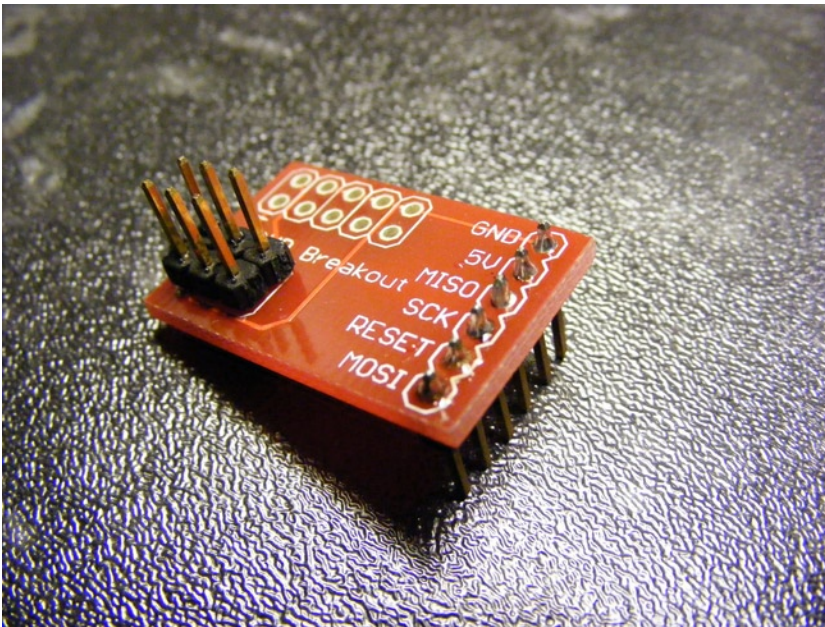

Figure 2-25. Adding header pins
We need to solder some header pins into the adaptor board. We're going to use some sections from a pin header, in conjunction with the Sparkfun AVR Programming Adaptor board, as shown in Figure 2-25.
3. Now, solder the short ends of the pins which are poking through the PCB topside, as in Figure 2-25.
4. Next, put your two three-pin groups into the top side of the board (or into the five-pin groups above if you have a ten-way cable from your programmer), and solder on the underside. Make sure there are no sneaky solder bridges shorting together any of the soldered pins; remove any bridges you find. Figure 2-25 shows how the board looks when the pins have been connected as described (in this case, for a six-pin cable).